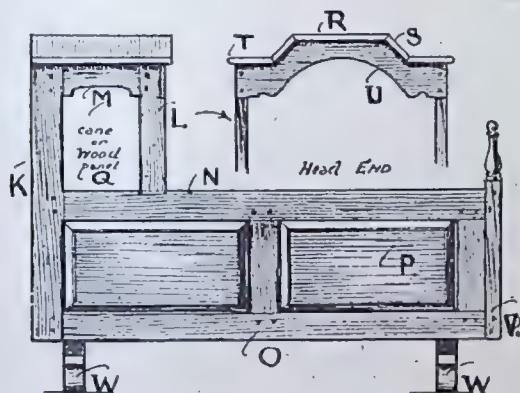

FIG. 5.—ALTERNATIVE DESIGN FOR CRADLE, WITH PANELLED SIDES, AND FINISHED SQUARE INSTEAD OF TAPERED.
The alternative cot (Fig. 5) varies considerably in construction, and would have a more workmanlike effect. For this two stiles (K) can be cut 2 ft. 2 ins. long by 2½ ins. full by ¾ in. or ⅞ in. thick, mortised or holed for tenons or dowels on rails, M, N and O. The uprights (L) can be cut 13 ins. long, including tenon on lower end, and will require notching to receive the arch or apron piece (U) and mortising or holing for the top rail (M) which should be shaped from a piece 9 ins. by 3 ins. by ¾ in. The rails N and O finish not less than 2½ ins. wide, and can be cut 3 ft. long, which will allow a trifle for paring to fit. The panels (P) can be got from pieces 10½ ins. wide by 1 ft. 4 ins. long, of ⅝ in. thickness, grooved into the framing; or this can be rebated for bevelled panels of ½ in. stuff, to be beaded in from behind. The foot end could have a similar panel, and the head end two panels (Q), the sides of the canopy being also panelled.